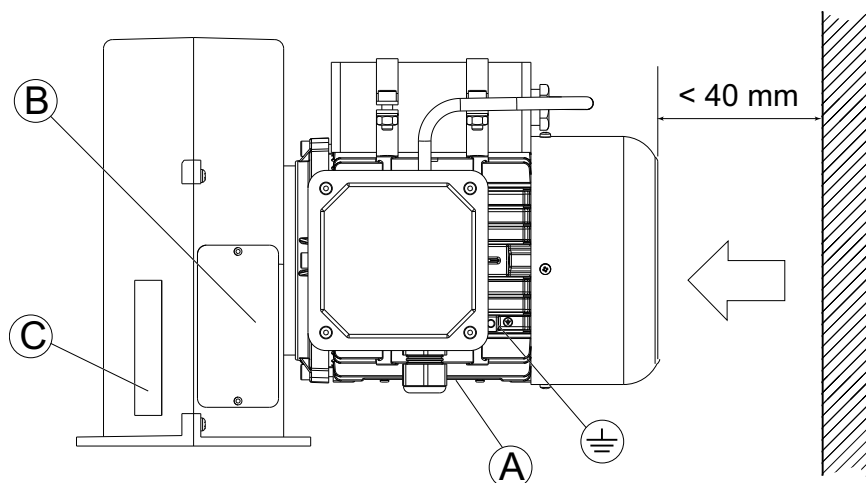

Fig. 1
EX 140A/180A are certified according to Directive 2014/34/EU (ATEX). Fan Category for fans is BV3 quality grade G6.3 according to ISO 14694. The motor rating plate (A, figure 1) shows data for the motor and does not apply for the complete fan. The fan rating plate shows data for the complete fan (B, figure 1). The field of explosion protection is stated on the fan rating plate (for example Ex de IIC T4). The fan fulfils the requirement for zone 1 but does not separate zones. Fan may be used in explosive environments for the transport of gas, but not the transport of hot fumes.
Protective earth (PE) must be connected, the external ground wire connection is placed on the motor (figure 1). Electrical connections must be made according to the wiring diagram. When the fan is controlled the current can increase at regulated voltage, the power must never exceed the rated power, see table 1. Data provided on the rating plate applies to air with density of 1.2 kg/m³.
Before starting installation check for any transport damage and that the impeller do not touch parts of the fan housing. Ambient temperature and the conveyed air temperature should be between -20°C and $+60^{\circ}\text{C}$ for all versions. EX 140A/180A are intended for operation within the specified temperature range. The motor is cooled by a integrated cooling fan which openings must not be covered, min. distance to the air intake is 40 mm (see figure 1). Avoid heat sources near the motor and the motor air intake.
Connection cable to the fan should be installed so that it is mechanically protected and suitable for use in the surrounding environment. Connection cable for the EX 140A/180A should have a diameter of 6.5 to 12 mm and a cross section of $1.5\text{--}2.5\text{ mm}^2$. The junction box on the motor is designed for the same environment as the fan. For external grounding of the chassis ground cable should be mounted on the grounding screw on the motor (figure 1).